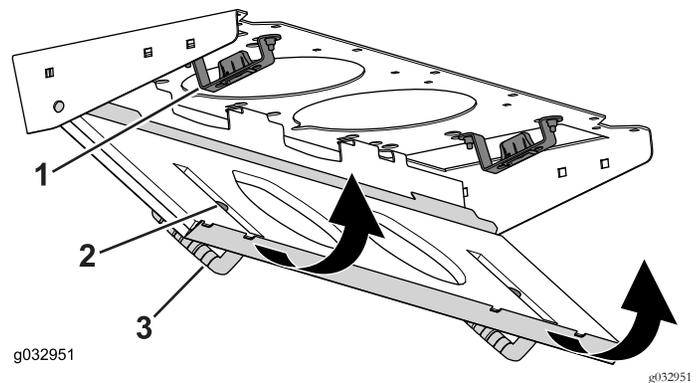

Figure 93
4. Rotate the filter screen around the tabs until the latch locks into the latch-mount assembly (Figure 93).